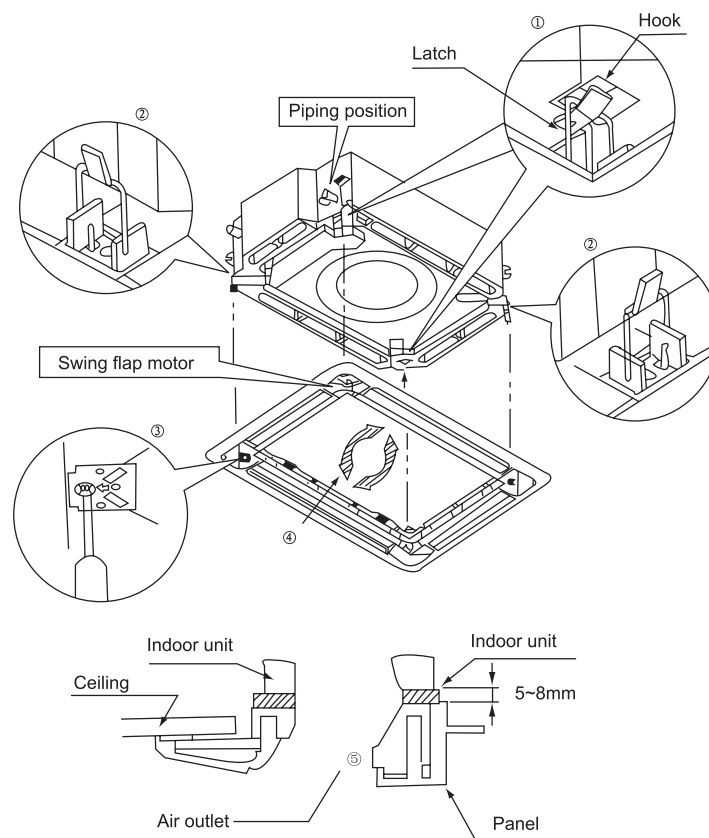

Figure 1-3-13
a. Set the panel to the indoor unit body by matching the position of the swing flap motor of the decoration panel to the piping position of the panel to the piping position of the indoor unit as shown in Figure 1-3-13.